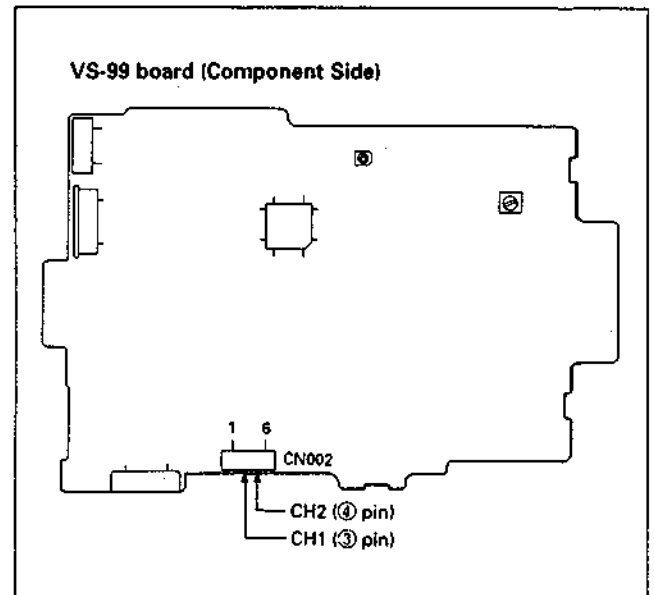

Fig. 7-32.
- CH1: VS-99 board CN002 pin ③ (PB RF)
- CH2: VS-99 board CN002 pin ④ (RF SWP)
- 4) Check that the RF waveform of the oscilloscope is flat at both inlet and outlet side. (Refer to Fig. 7-32 and 7-33)